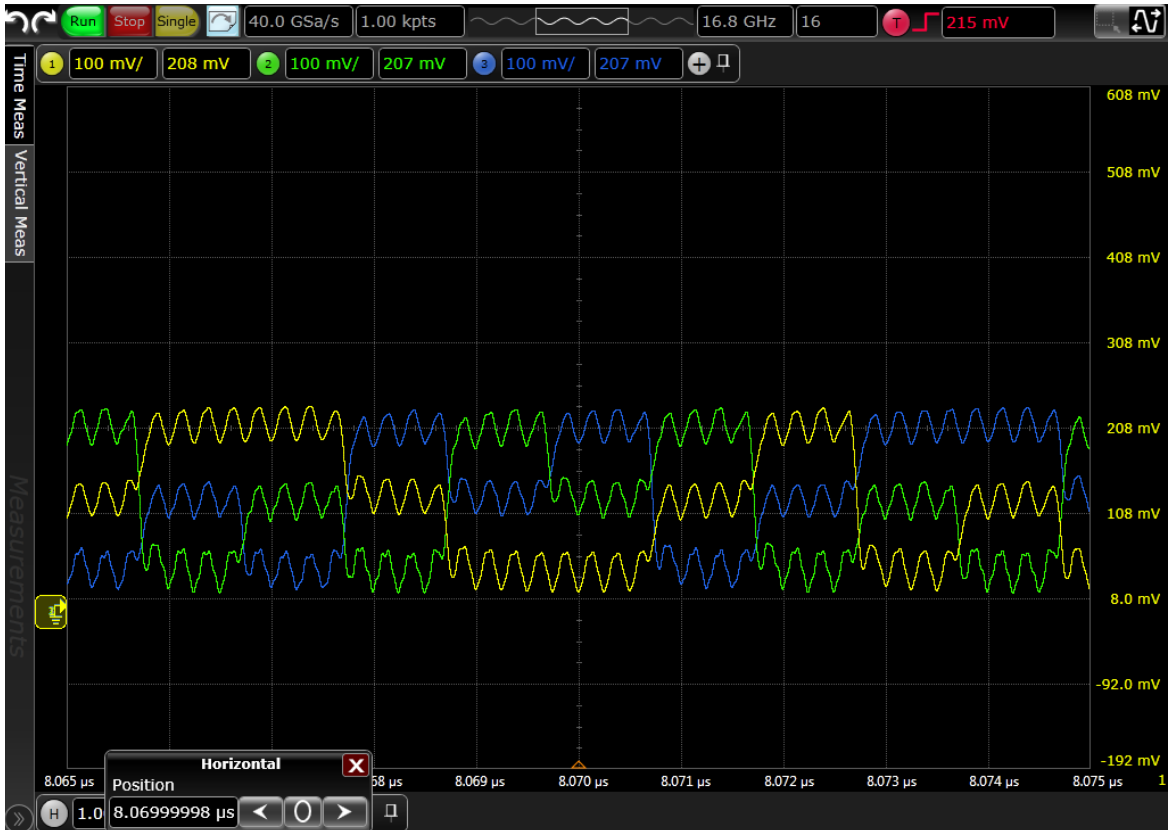

Figure 5 Common mode interference on high speed
- 2 Figure 5 shows the common mode interference with same high speed switching rate and interference frequency as shown in above example but with double interference amplitude.